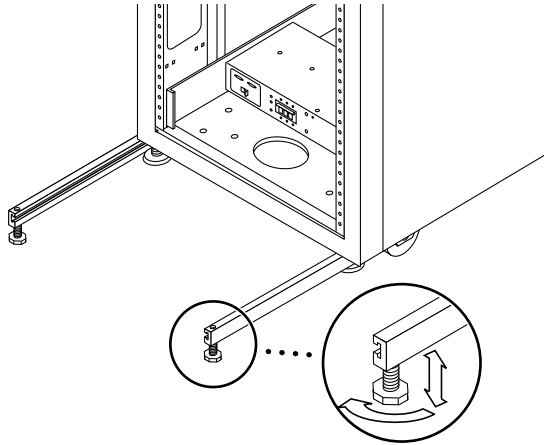

FIGURE 2-4 Adjusting the Leveling Pads on the Stabilizer Leg
5. Use the leveling wrench to adjust the feet on both stabilizer legs so that they touch the floor (FIGURE 2-4).